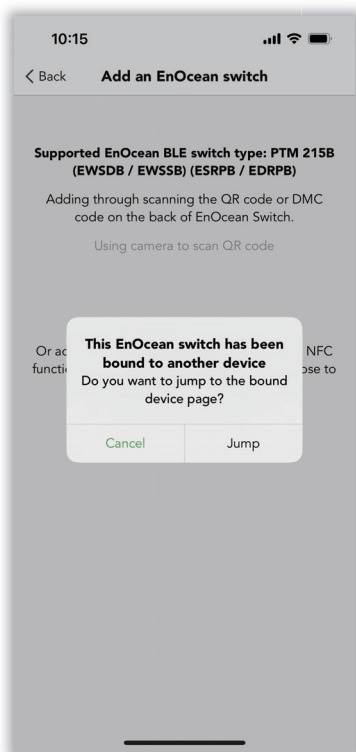

Figure 22.7 Jump to unbound
- ※ If an EnOcean has bound with a device before, then users need to unbind or delete it before bind to another device, otherwise it may fail to bind with the new device. In our app, if EnOcean is bound with a device, then there will be a notice which will remind users that it has been bound to another device. Users need to delete the original device that bind into this EnOcean (see figure 22.7).